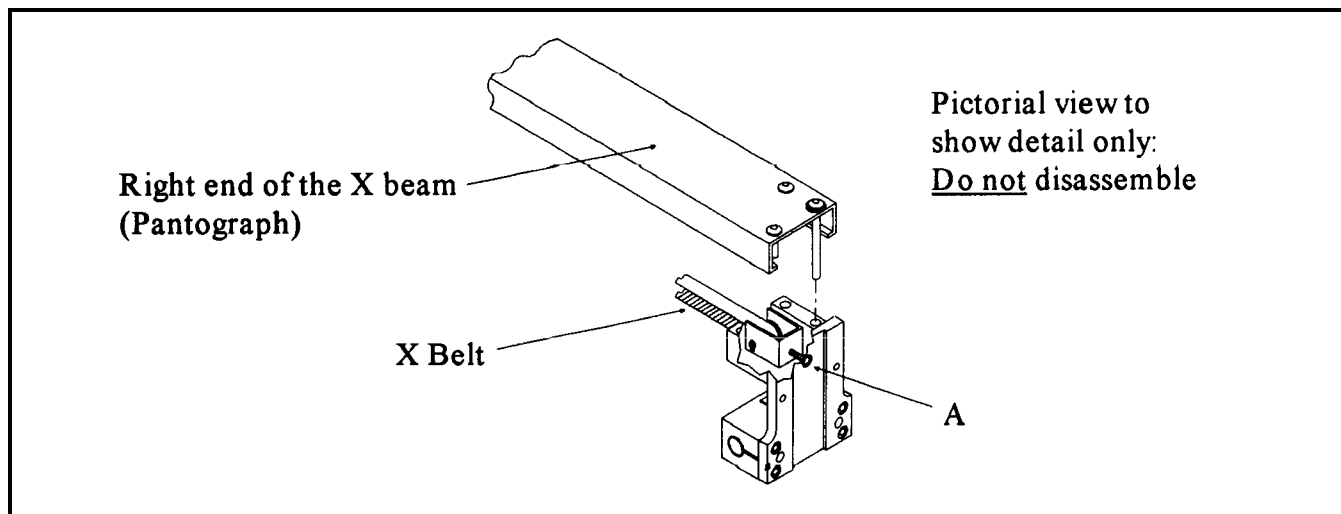

Figure 1
2. At the right end of the beam assembly, loosen the belt tensioning screw (A) counter clockwise six full turns. (See Figure 1)
16. Push the X carriage all the way to the left side of the pantograph until it mechanically stops. Then adjust the tension of the X belt by tightening the belt tensioning screw (A) clockwise six full turns. (See Figure 1)
17. Check the tension of the X belt with the Gates Tension Meter, by positioning the tension meter onto the belt as close to the center as you can. It should read 5 to 6 lbs, if the tension is out of the preferred range adjust the tension screw (A) counter clockwise to loosen or clockwise to tighten until the tension reads 5 to 6 lbs.